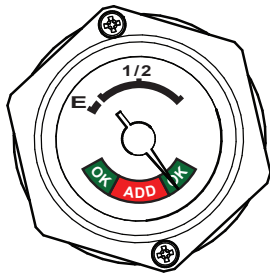

Figure 30. LPG Fuel Gauge
2. Read the fuel gauge (Figure 30) on the propane tank to determine if the propane level is low.